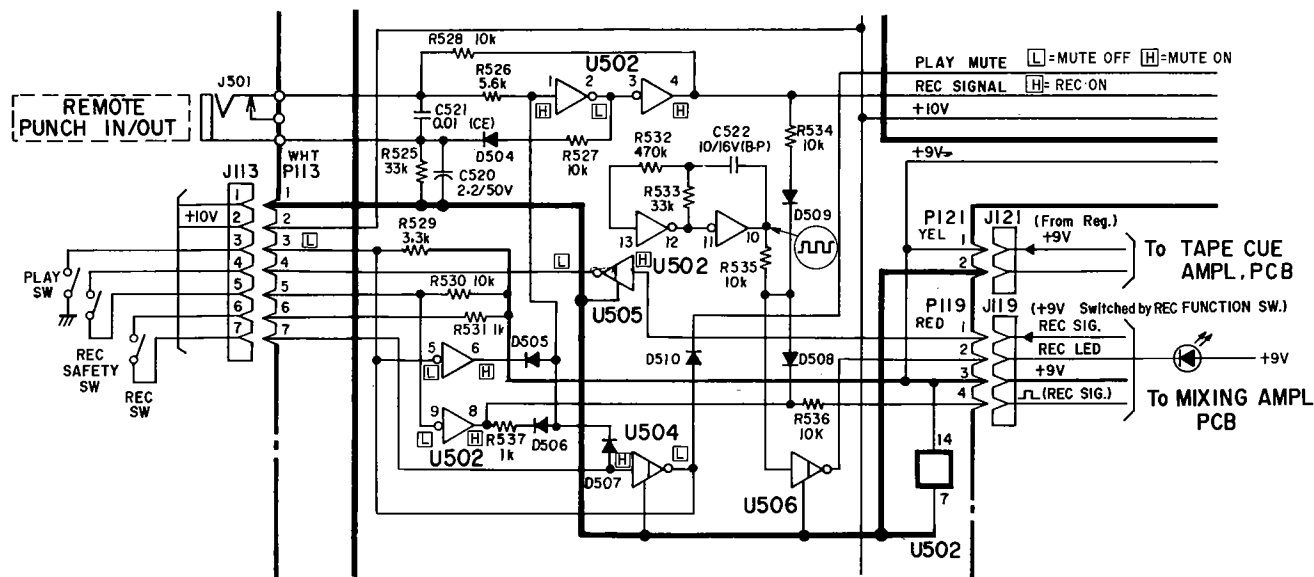
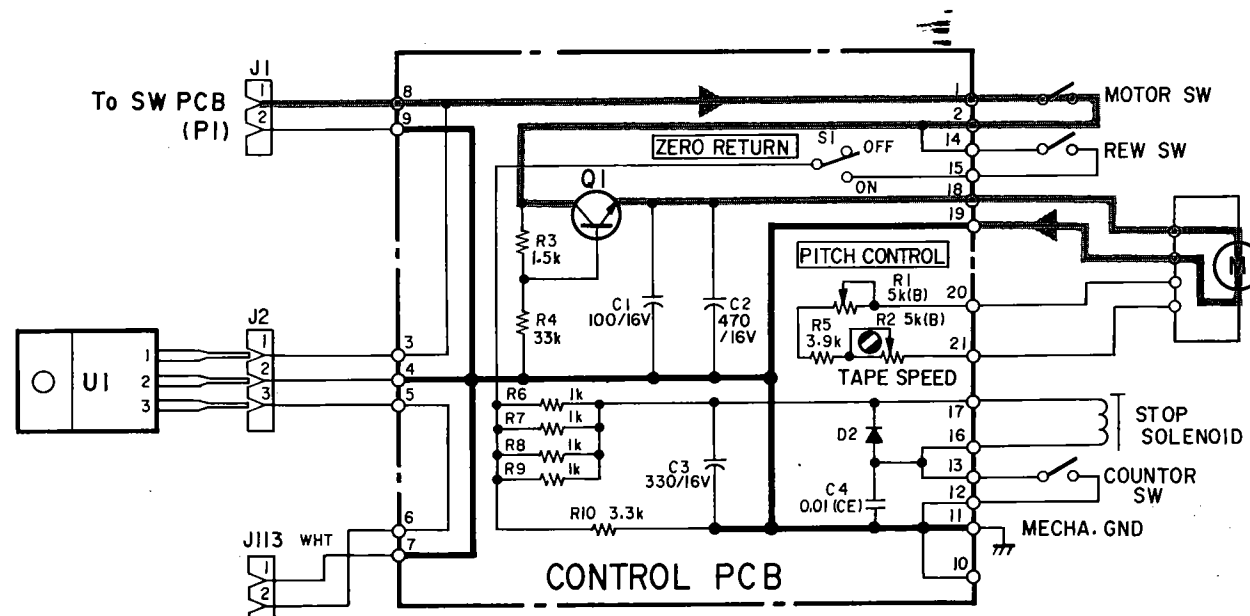

Fig. 3-2 Control logic circuit
Fig. 3-3 Motor control circuit
Fig. 3-2 shows the control logic circuit and Fig. 3-3 the motor control circuit.
When the PLAY key is pushed, the PLAY SW in Fig. 3-2 is closed and pin 3 of P113 is grounded. As a result, the PLAY MUTE signal line (D510 cathode side) goes "L", and the "L" level signal is used as a signal to release the PLAY MUTE operation.
With the PLAY key pushed, the MOTOR SW shown in Fig. 3-3 is closed, and a current flows from pin (1) of J1 into the motor passing through MOTOR SW, and Q1.
When the REC key is pushed, the REC SW shown in Fig. 3-2 is closed and pins 6 and 7 of P113 are connected. As a result, the cathode side of D507 goes "H", and the output side of U504 goes "H" level.
With the REC key pushed, the MOTOR SW shown in Fig. 3-3 is closed and the motor rotates in the same way as in Play mode.
1. When the PAUSE key is pushed under record condition, the PLAY SW shown in Fig. 3-2 is opened. However, the voltage level on pin 3 of P113 is not changed as the output side of U504 is maintained at "L" level.
2. On the other hand, when the PAUSE key is pushed during the Punch-in operation, the PLAY SW shown in Fig. 3-2 is also opened and pin 5 of U502 changes to "H" and pin 6 to "L". Then, pin 1 of U502 changes to "L", pins 2, 3 to "H", and pin 4 to "L", thus the recording condition is disabled. That is, a condition the same as the PLAY PAUSE will be created.